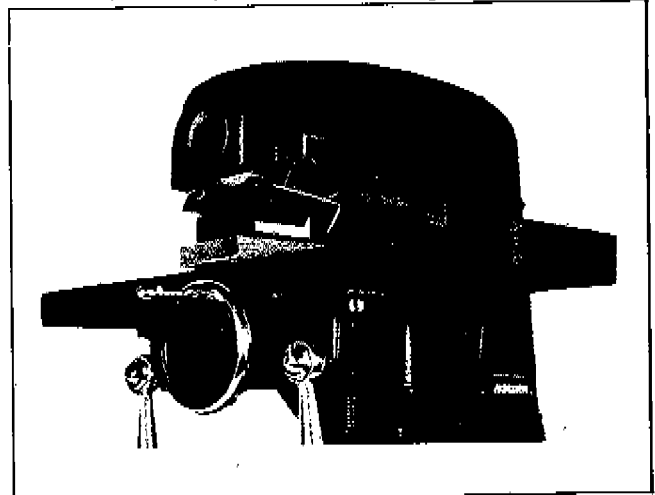

FIG. 5
3. Place a piece of wood 1/2 inch thick 3 inches wide and 6 inches long on the table under the blade setting gage as shown in Fig. 5 to provide clearance for the Allen wrench when tightening the set screws.
4. Raise the table until the gage touches the cutter head front and rear at the bearing points indicated in Fig. 5.